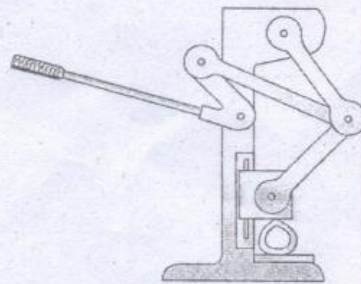

Figure 16(a)
- 16. (a) Figure 16 (a) shows a mechanical press used to exert large forces to insert a small part into a larger one. Draw a kinematic diagram, using the end of the handle as a point of interest. Also compute the degrees of freedom.